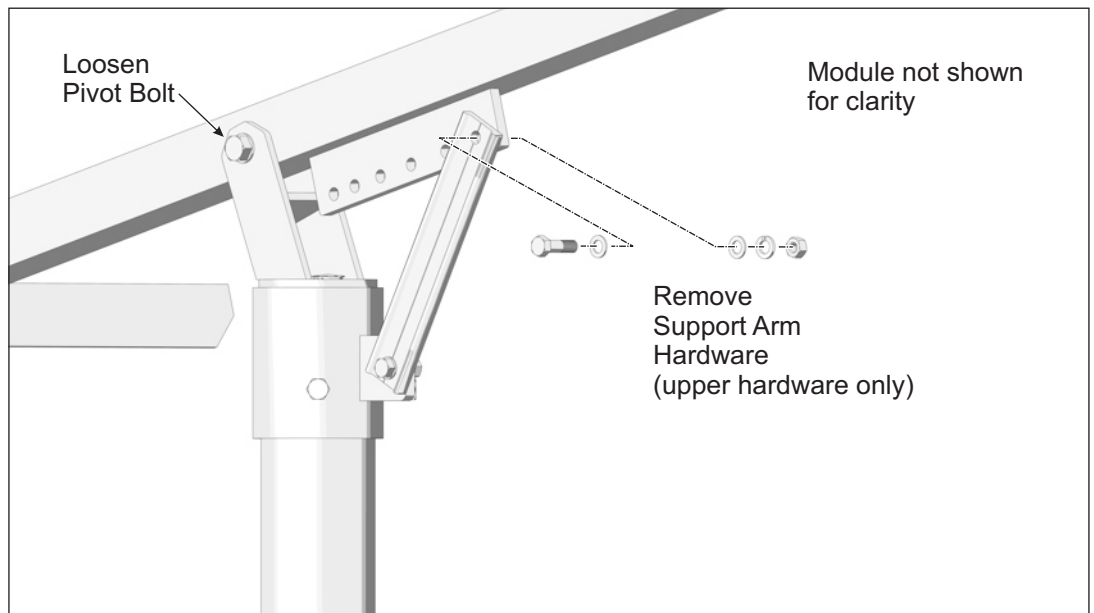

Figure 6-1: Preparing to Adjust the Tilt Angle
- A. While one person holds the south edge of rack, the other loosens the Pivot Bolt and removes the upper 3/8" hardware attaching the Support Bar to the Strongback. (See Figure 6-1)